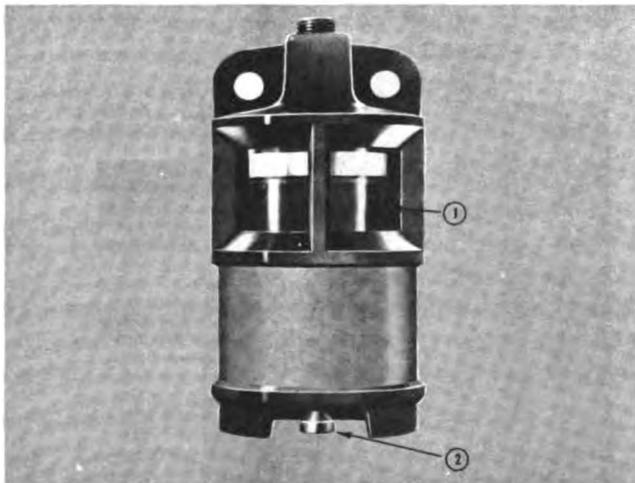

Fig. 2-7. (CGS-20). Air inlet restriction indicator
A mechanical restriction indicator is available to indicate excessive air restriction through a dry-type air cleaner. This instrument can be mounted in the air cleaner outlet or on the vehicle instrument panel. The red flag (1, Fig. 2-7) in the window gradually rises as the cartridge loads with dirt. After changing or replacing the cartridge, reset the indicator by pushing the reset button (2).